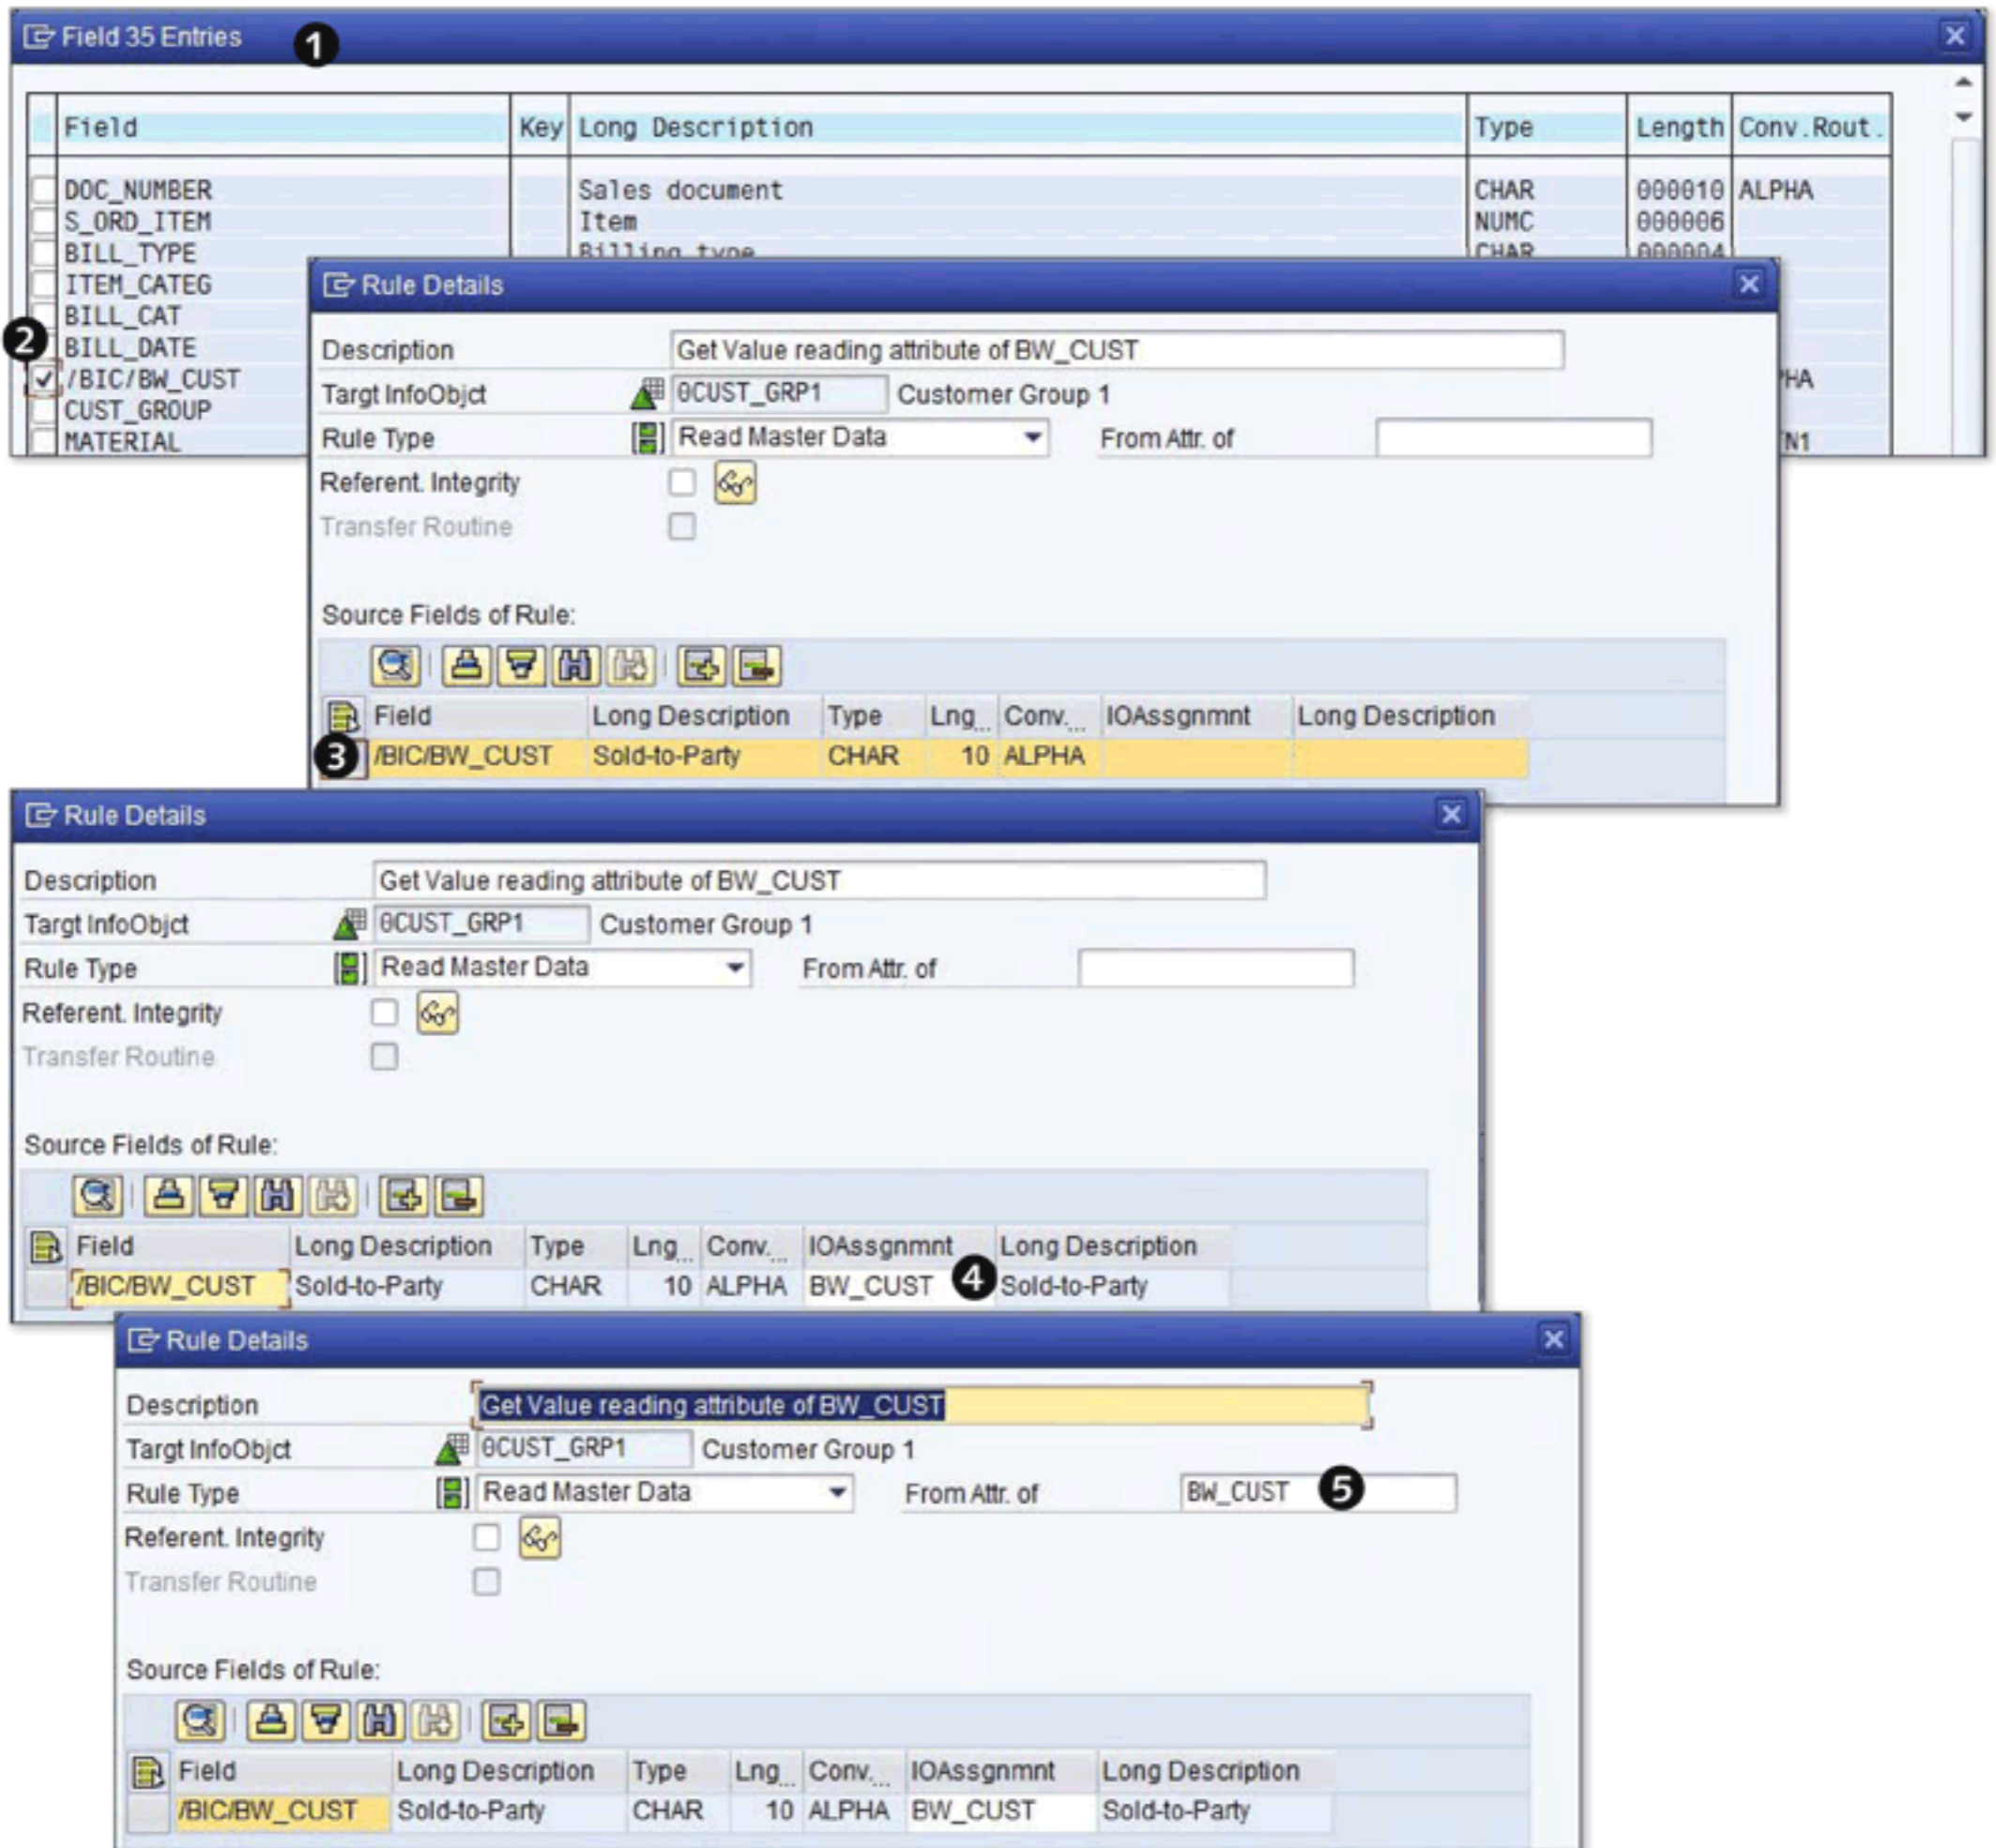

Figure 7.60 Read Master Data Transformation: Part 2
This results in the list are shown in ❶ of Figure 7.60, which lists all of the fields from the source object. Select /BIC/BW_CUST (❷), which is available under SOURCE FIELDS OF RULE (❸). Because we need to read the master data from the InfoObject, you must type "BW_CUST" in IOASSGNMNT (InfoObject Assignment) (❹). Press , and select FROM ATTRIB. OF (❺). Now press , which brings the InfoObject BW_CUST value in this field (❻).